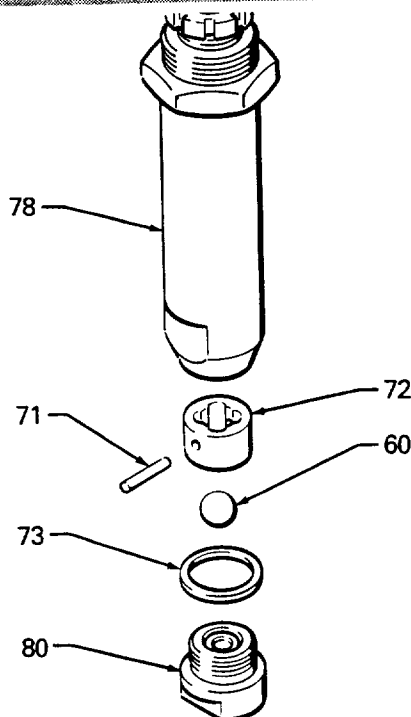

Fig 2
Unscrew intake valve (80) from cylinder (78). If valve is seized in housing, squirt penetrating oil around threads and *gently* tap around housing with a light hammer to loosen. See Fig 2 and 4. Remove ball guide (72), stop pin (71) and ball (60). Clean and inspect parts for wear or damage.